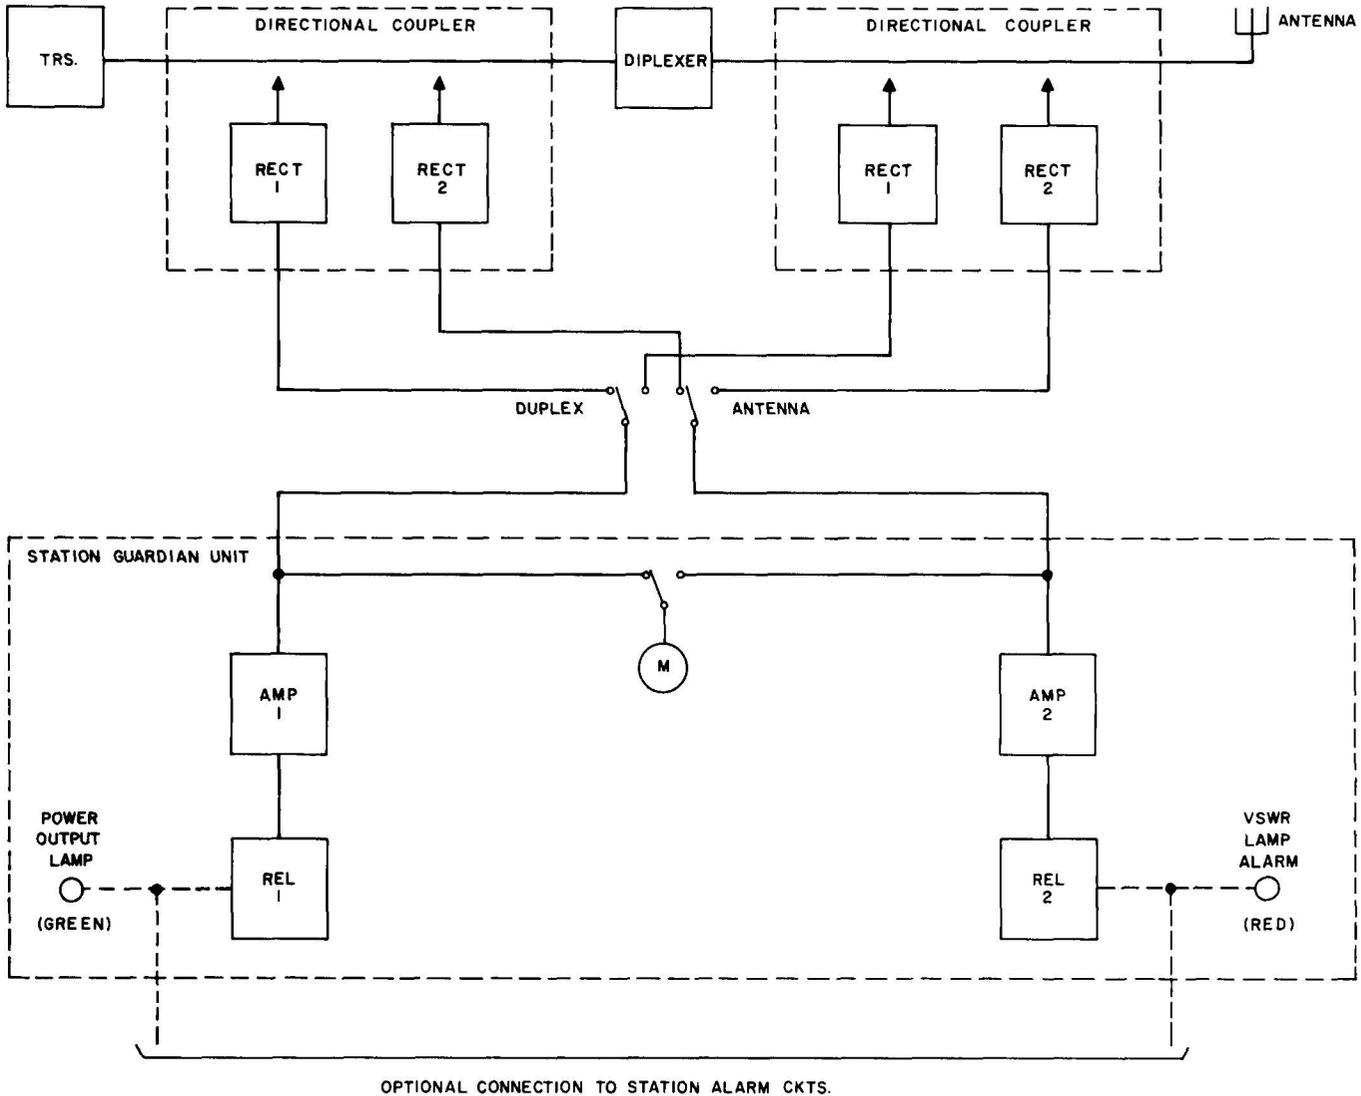

Fig. 15—Station Guardian—Block Diagram
3.78 The Station Guardian unit (Fig. 15) is used to monitor RF output power, reflected power, and the VSWR of the base station transmitting system. Visual alarms are on the unit's front panel, and dry contacts are provided for optional connection to external alarms for low-power output and excessive VSWR. The Station Guardian is not connected to the office alarms at Echo-Fox installations.